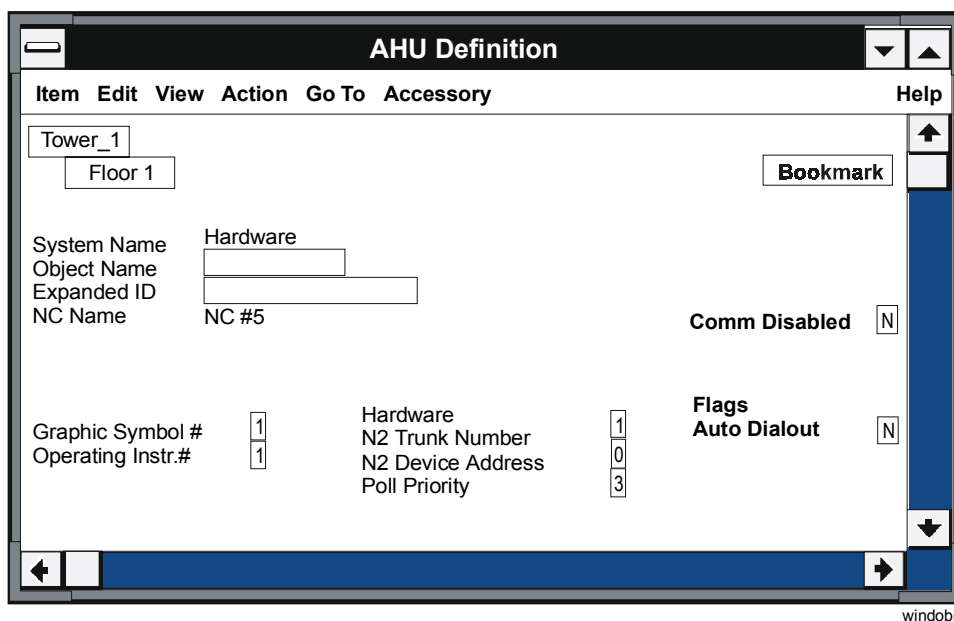

Figure 23: AHU Definition Window
7. Click OK to display the AHU Definition window (Figure 23).